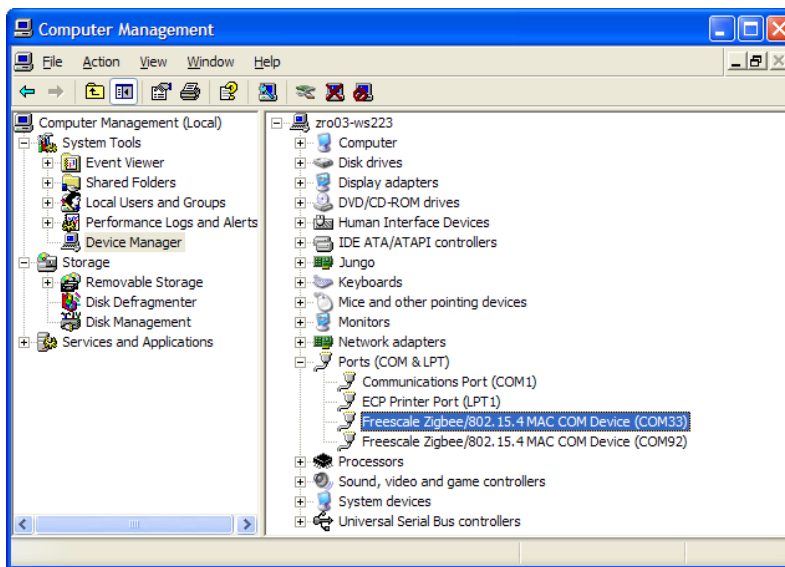

Figure 5-24. COM Ports in Device Manager
2. In the Windows Device Manager, under the Ports (COM & LPT) option, two devices labeled “Freescale ZigBee/802.15.4 MAC COM Device” appear as shown in Figure 5-24. (The COM ports shown in Figure 5-24 will be different on every PC).